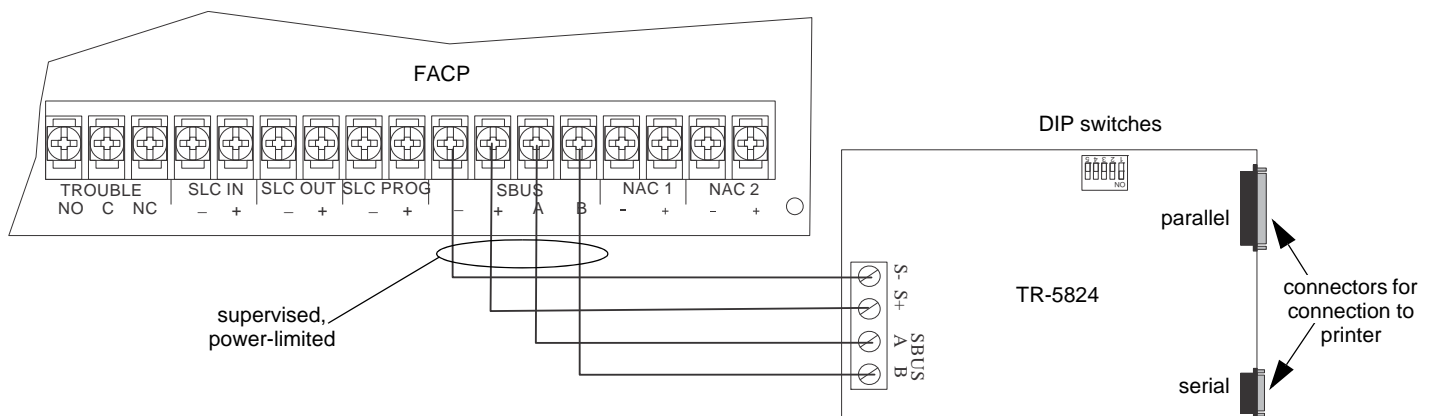

Figure 4.22 TR-5824 Connection to the Panel
2. Connect the TR-5824 to the panel as shown in Figure 4.22.
5. Connect a printer to the TR-5824 as shown in Figure 4.22.